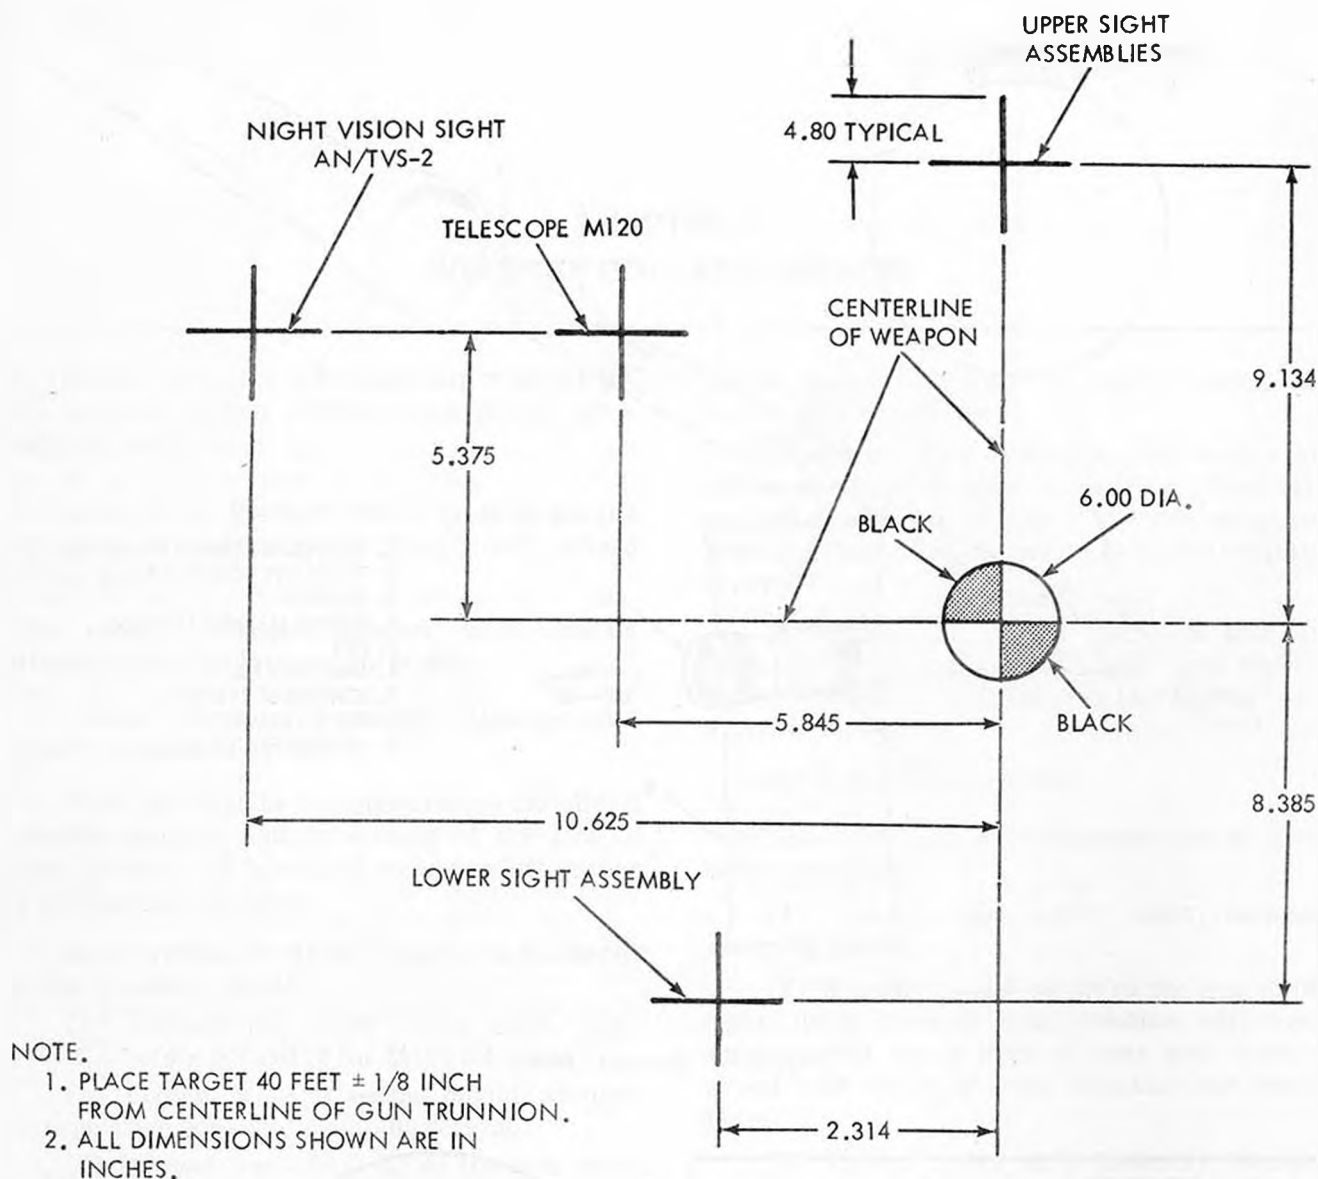

Figure 26. Weapon system indoor boresight target.
(1) Loosen the lower sight assembly clamping screws.
(2) Without disturbing lay of the gun, adjust sight, using azimuth and elevation adjustment screws, until upper edge of rear peep sight is alined with center of front crosshair and aiming point.
(3) Tighten lower sight assembly clamping screws.
(4) Recheck sight pictures.
29. **Boresighting Alternate Method.** Boresighting may be accomplished at a near target, or indoors, by using target picture in figure 26. Place target 40 feet from centerline of gun trunnion. The same procedure is followed as in paragraph 28.